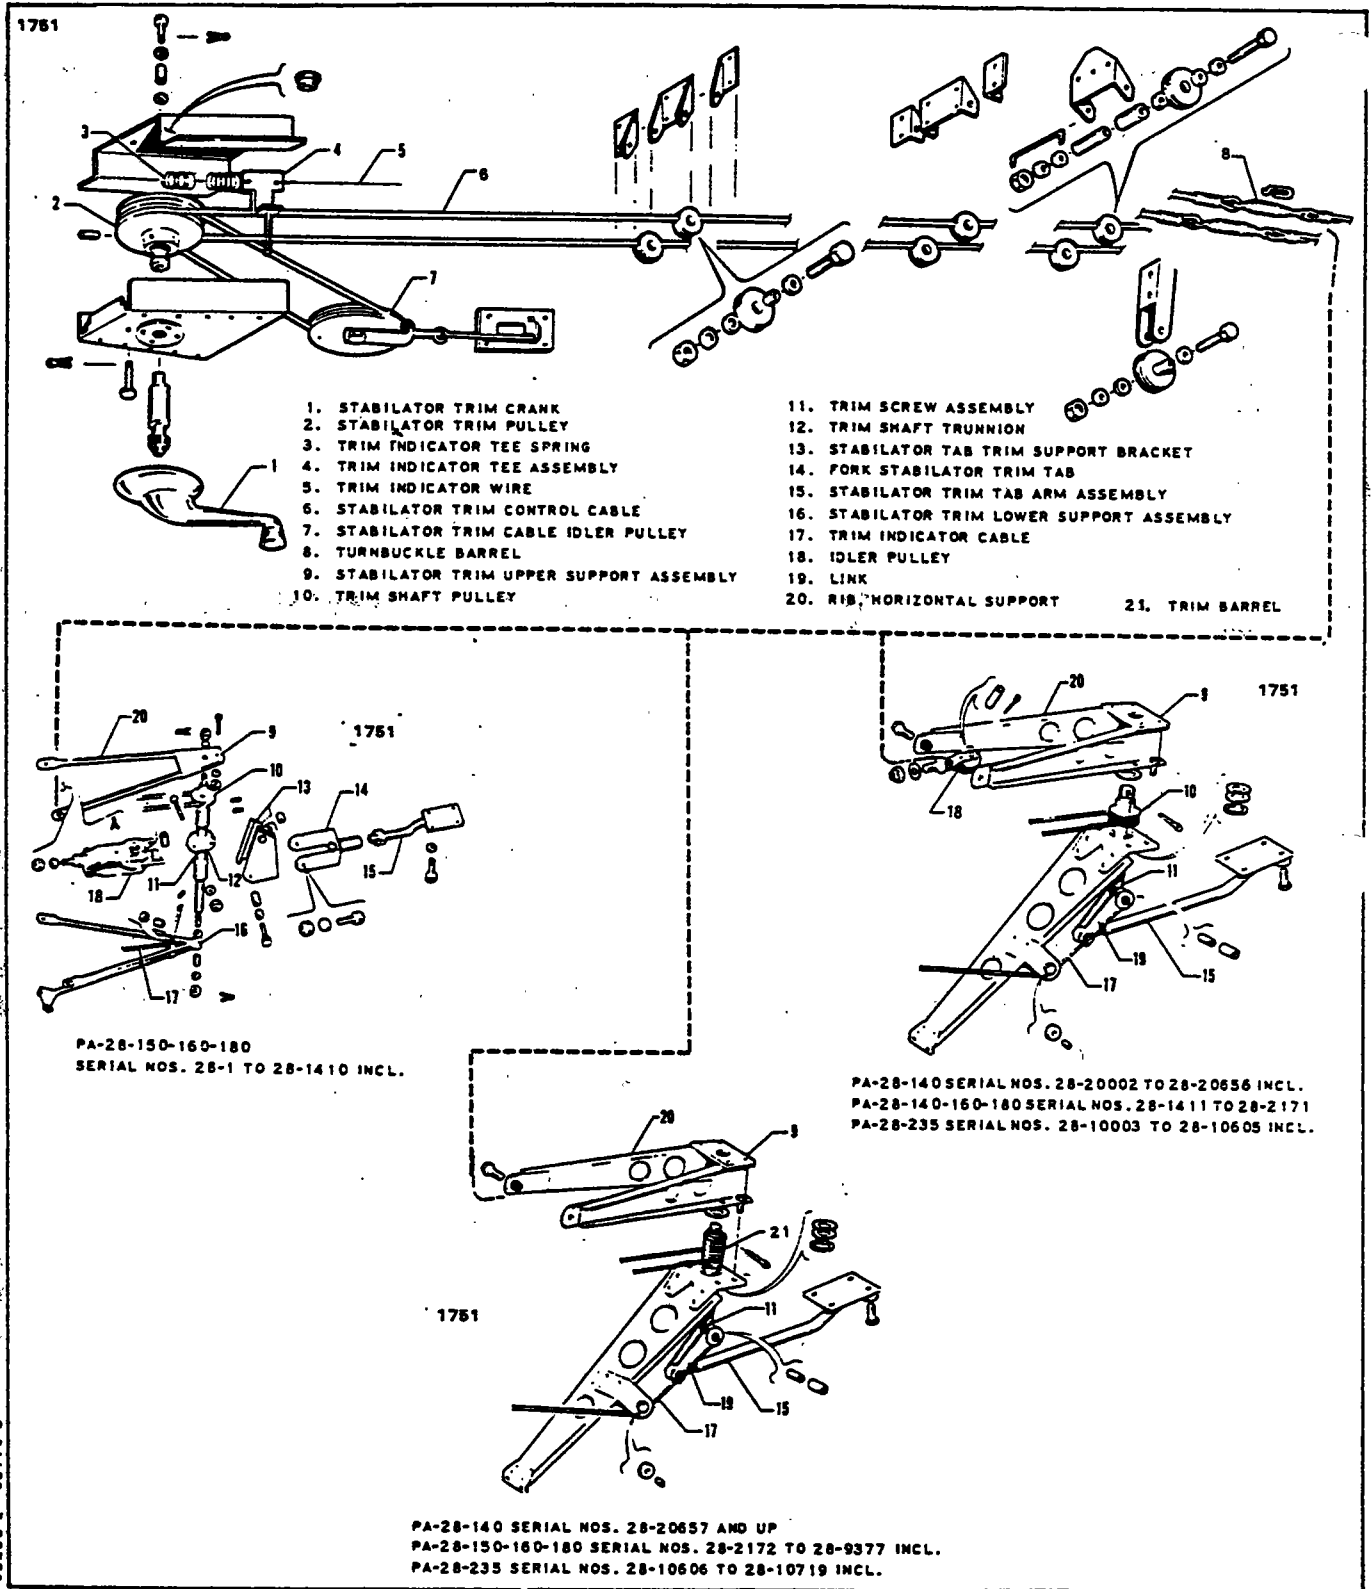

Figure 5-9. Stabilator Trim Control (Overhead Control)
(Refer to Figure 5-9.)
## 5-22. INSTALLATION OF STABILATOR TRIM CONTROLS. (AFT.) (Refer to Figure 5-9.)
- (b) With the forward portion installed, route the long length (the long length should be the left end of the cable) aft, counterclockwise around to the top groove of the trim pulley (10), around the idler pulley (18), back around the bottom groove of the trim pulley and forward to the inside of the fuselage.
3. The trim indicator cable may be installed by attaching one end to the trim screw trunnion. (Refer to Figure 5-9 for correct location.) Loop the cable around the pulley below the trim screw. Install the cotter pin cable guard at the pulley. Attach other end of the cable to the indicator wire, and at the same time make adjustments given in paragraph 5-23.
2. Attach the horizontal (20) and diagonal support ribs to the aft bulkhead of the fuselage with bolts, washers and nuts. Start nuts only a few threads so as to allow ribs to hang loose. Do not connect the ribs at this time.
4. Wrap the trim cable around the barrel (21) and idler pulley (18). To do this, hold the barrel next to the aft end of the support braces and wrap, bringing the end of the long length (The long length should be the left end of the cable.) aft to the left side of the trim barrel, around the bottom groove of the idler pulley, then continuing to wrap in this direction until all grooves are filled.
5. Install the trim barrel (21) in the bushing between the horizontal and diagonal ribs, and then attach the ribs, securing with bolts, washers and nuts. Tighten bolts where the ribs attach to the aft bulkhead.
11. The trim indicator cable may be installed by attaching one end to the lower end of the trim screw (Refer to Figure 5-9 for correct location.) and looping the cable around the pulley below the trim screw. Install the cotter pin cable guard at the pulley. Attach other end of the cable to the indicator wire, and at the same time make adjustments given in paragraph 5-23.